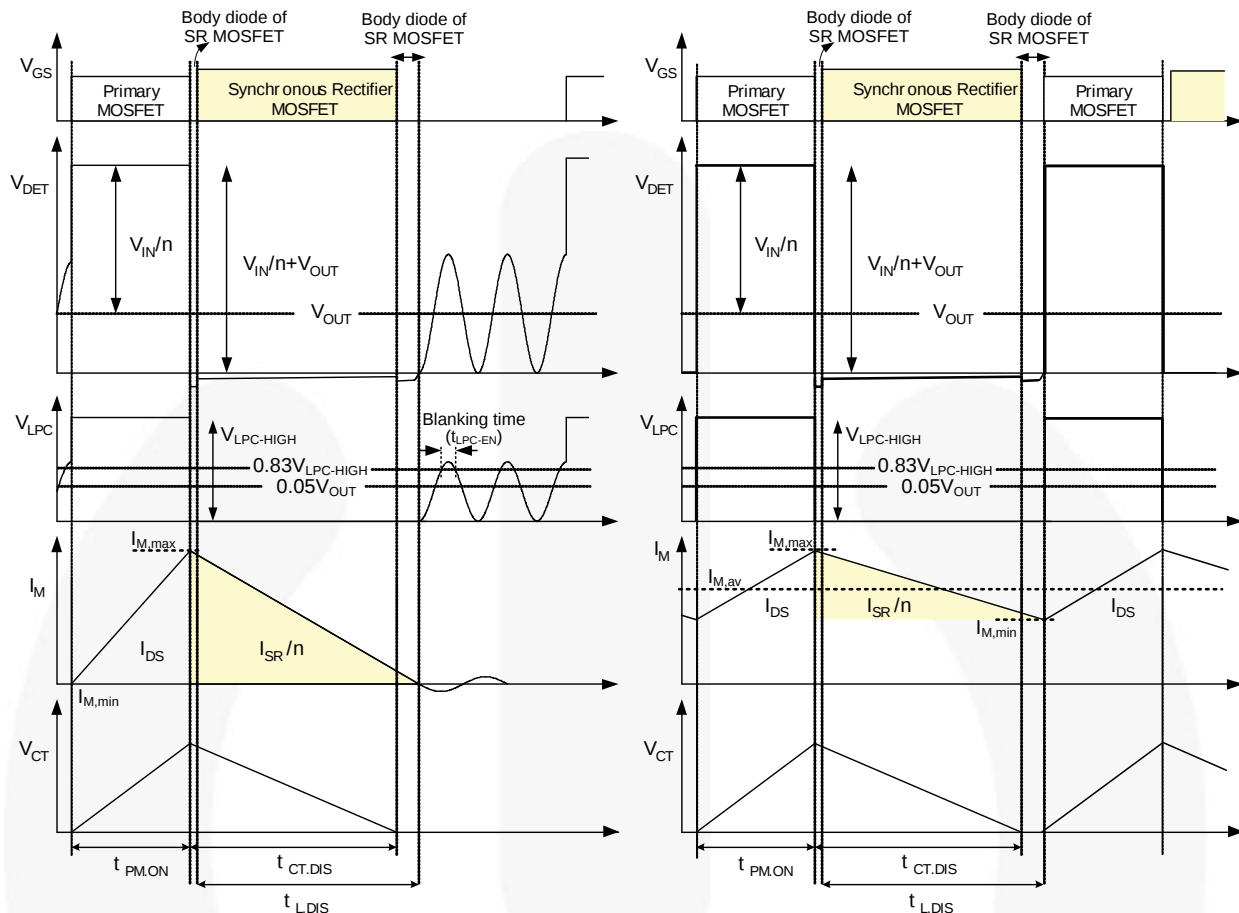
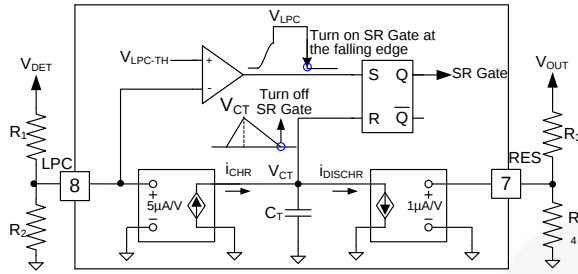

Figure 18. Typical Waveforms of Linear-Predict Timing Control in CCM and DCM/QR Flyback
Figure 19. Simplified Linear-Predict Block
The SR MOSFET turn-off timing is determined by linear-predict timing control and the operation principle is based on the volt-second balance theorem. The volt-second balance theorem states that the inductor average voltage is zero during a switching period in steady state, so the charge voltage and charge time product is equal to the discharge voltage and discharge time product. In flyback converters, the charge voltage on the magnetizing inductor is input voltage (V_{IN}), while the discharge voltage is nV_{OUT} , as the typical waveforms show in Figure 18. The following equation can be drawn:
FAN6204 uses the LPC and RES pins with two sets of voltage dividers to sense DET voltage (V_{DET}) and output voltage (V_{OUT}), respectively; so V_{IN}/n , $t_{PM,ON}$, and V_{OUT} can be obtained. As a result, $t_{L,DIS}$, which is the on-time of SR MOSFET, can be predicted by Equation (1). As shown in Figure 18, the SR MOSFET is turned on when the SR MOSFET body diode starts conducting and DET voltage drops to zero. The SR MOSFET is turned off by linear-predict timing control.
The linear-predict timing-control circuit generates a replica (V_{CT}) of magnetizing current of flyback transformer using internal timing capacitor (C_T), as shown in Figure 19. Using the internal capacitor voltage, the inductor discharge time ($t_{L,DIS}$) can be detected indirectly, as shown in Figure 18. When C_T is discharged to zero, the SR controller turns off the SR MOSFET.
Referring to Figure 18; when LPC voltage is higher than V_{LPC-EN} over a blanking time (t_{LPC-EN}) and lower than $V_{LPC-TH-HIGH}$ ($0.05 V_{OUT}$), then SR MOSFET can be triggered. Therefore, V_{LPC-EN} must be larger than $V_{LPC-TH-HIGH}$ or the SR MOSFET cannot be turned on. When designing the voltage divider of LPC, R_1 and R_2 should be considered as:
The typical waveforms of CCM operation in steady state are shown as Figure 18. When the primary-side MOSFET is turned on, the energy is stored in L_m . During the on-time of the primary-side MOSFET ($t_{PM,ON}$), the magnetizing current (I_M) increases linearly from $I_{M,min}$ to $I_{M,max}$. Meanwhile, internal timing capacitor (C_T) is charged by current source ($i_{CHR} - i_{DICH}$) proportional to V_{IN} , so V_{CT} also increases linearly.
In DCM / QR operation, when primary-side MOSFET is turned off, the energy stored in L_m is fully released to the output at the turn-off timing of primary-side MOSFET. Therefore, the DET voltage continues resonating until the primary-side MOSFET is turned on, as depicted in Figure 18. While DET voltage is resonating, DET voltage and LPC voltage drop to zero by resonance, which can trigger the turn-on of the SR MOSFET. To prevent fault triggering of the SR MOSFET in DCM operation, blanking time is introduced to LPC voltage. The SR MOSFET is not turned on even when LPC voltage drops below $0.05 V_{OUT}$ unless LPC voltage stays above $0.83 V_{LPC-HIGH}$ longer than the blanking time (t_{LPC-EN}). The turn-on timing of the SR MOSFET is inhibited by gate inhibit time ($t_{INHIBIT}$), once the SR MOSFET turns off, to prevent fault triggering.